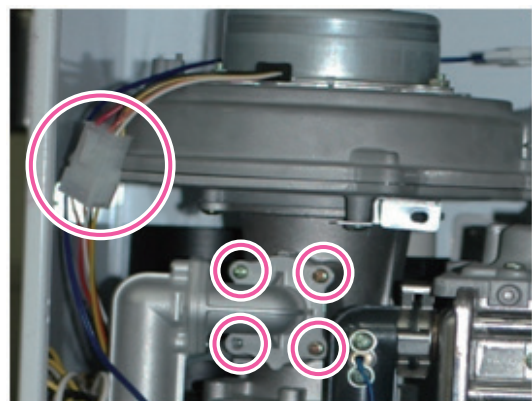

Figure 5
6. Disconnect the wiring connector from the fan assembly, and then remove the 4 screws from the gas valve connection as shown in Figure 5 below.
- Attach the gas valve connection back to the fan assembly by using the 4 screws as shown in Figure 5.